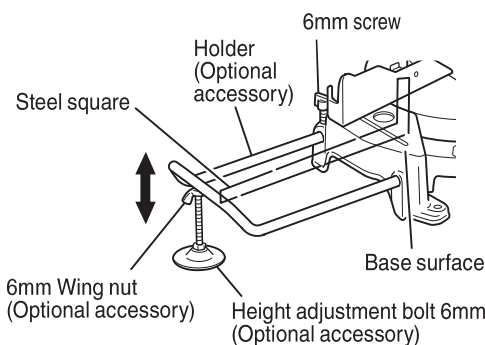

Fig.10
(1) As indicated in Fig. 10, use a steel square for aligning the upper edge of the holders with the base surface.